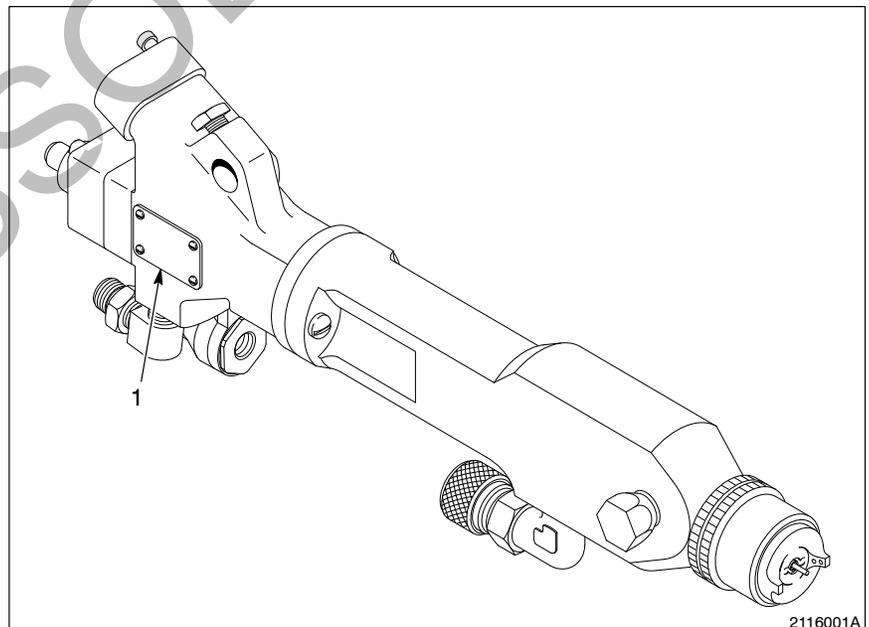

Fig. 1 AN-10 gun safety label location
Table 2 contains the text of the safety labels on, or shipped with, the AN-10 gun. Figure 1 shows the location of the AN-10 gun label that is described in the table as item 1. Familiarize yourself with the safety labels; they will help you safely operate and maintain your equipment.